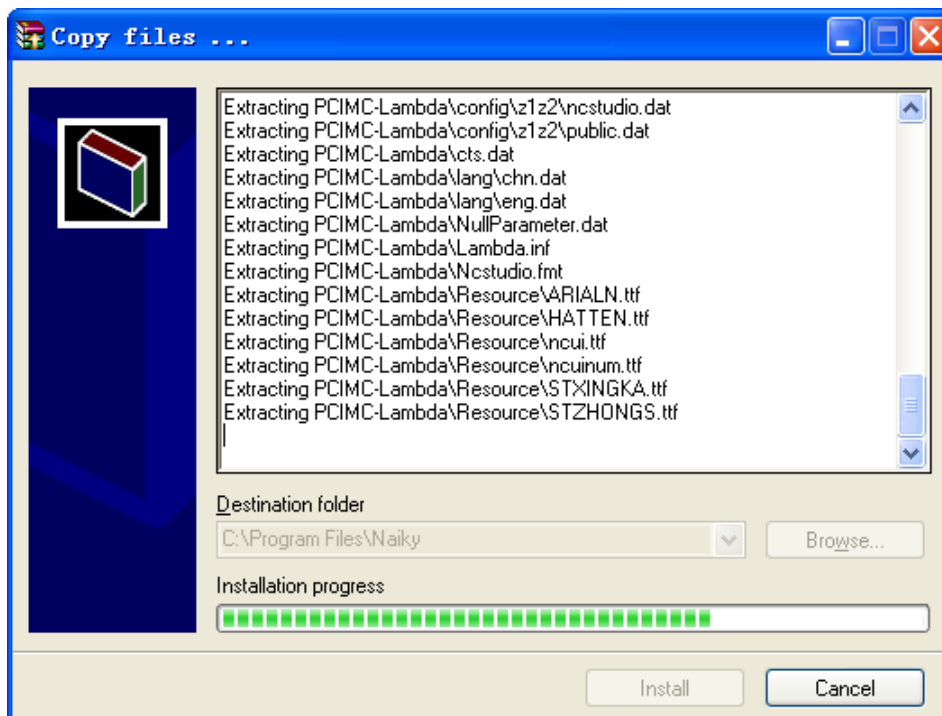

Fig. 3-12 Software setup progress
4) Installation begins. The progress bar is displayed as shown in Fig. 3-12.